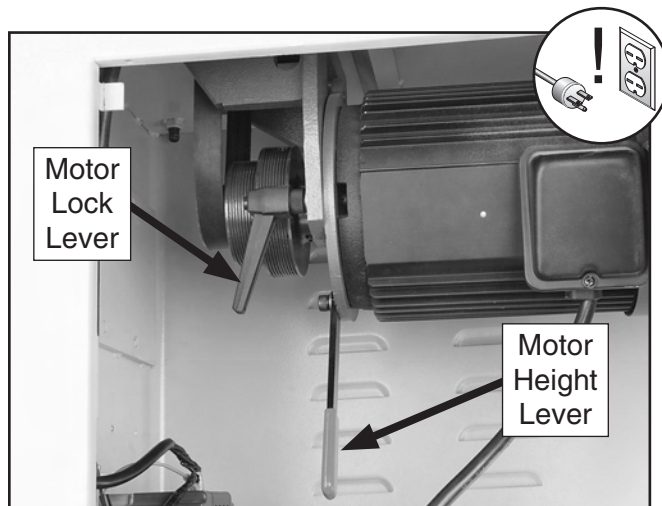

Figure 56. Motor tension controls.
2. Loosen the motor lock lever shown in **Figure 56**, raise the motor up using the height lever, then let the motor hang down on its own weight to tension the belt.